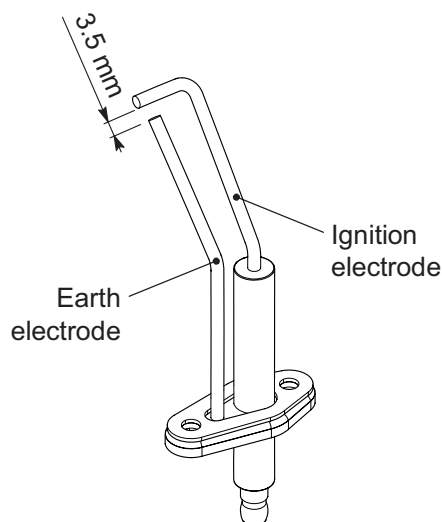
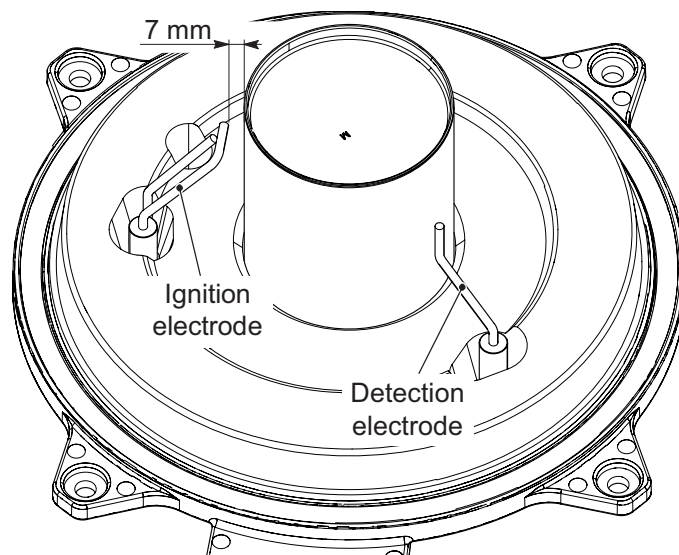

Figure 18.6
Figure 18.7
- 2 Check for the correct distance between the metallic edges of the ignition electrode (see Figure 18.6 - Figure 18.7).
The detection electrode in Figure 18.7 also functions as a sensor for the correct drainage of the condensate.